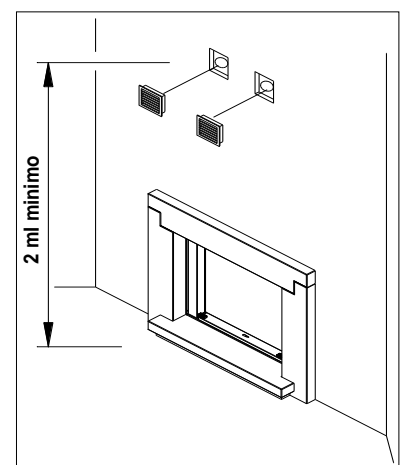

Figure 3 – Installation of hot air outlets
- **For natural ventilation,** it is advisable to position the air outlets at a height of not less than 2 m above the floor. (fig.3).